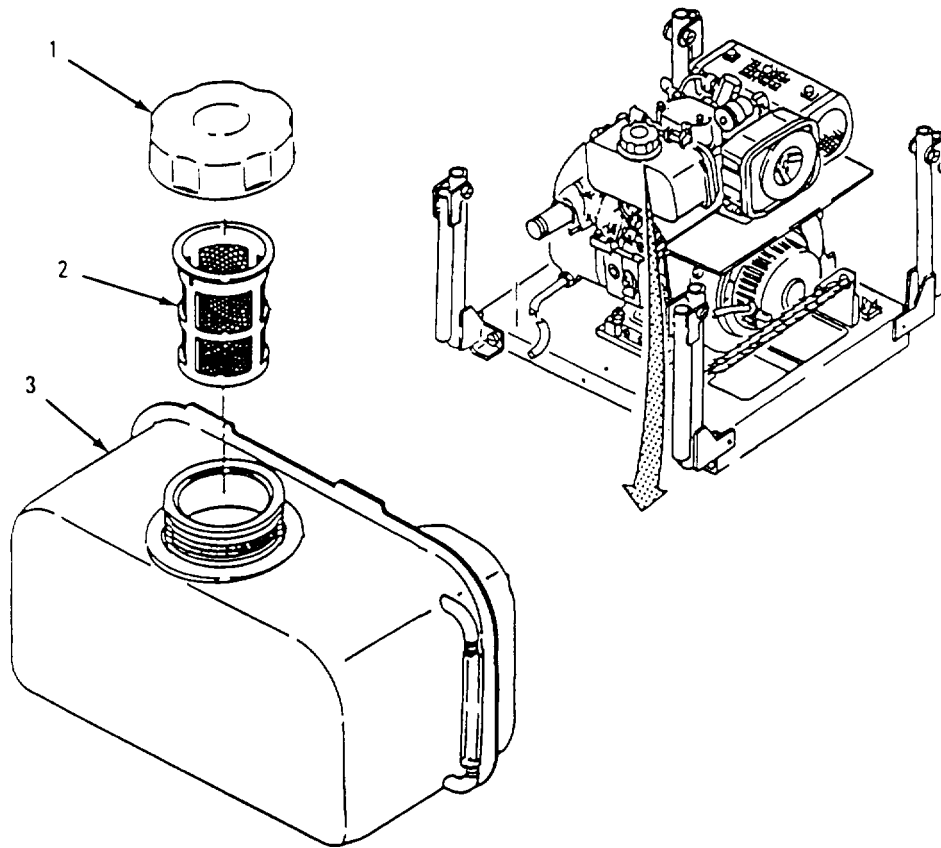

Figure 3-2. Fuel Filter.
a. Removal. (Refer to Figure 3-2).
- (1) Remove fuel tank cap (1) from fuel tank (2).
- (2) Remove inlet fuel filter (3).